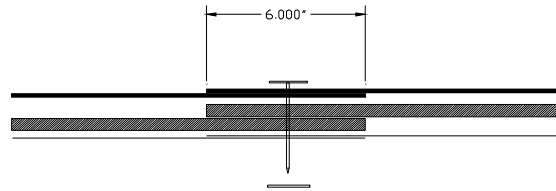

Figure 5
STEP 6. Overlap the layers of the mating fire barrier sections in the manner shown in Figure 5.